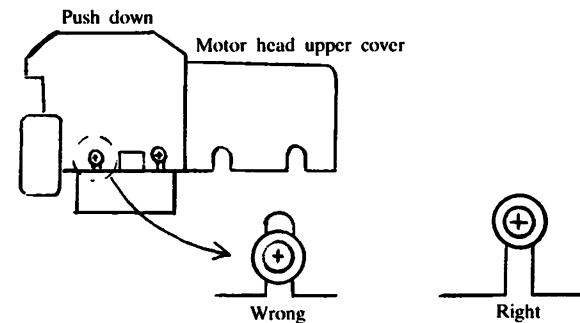

Fig. 4
- (1) Make sure that the connectors are joined and that the Cord clips hold the cord.
- (2) Set the Speed change knob on H position.
- (3) Loosen the ten screws fixing the covers enough.
- (4) Put the power switch in the Head frame securely.
- (5) Put the Motor head upper cover on the Motor and push down it so that all the screws are in the recess of the screw groove. Then tighten the screws. (Refer to Fig. 4).